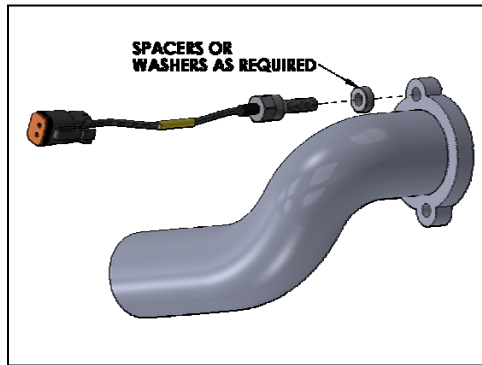

Figure 3
- Figures 3 through 8 depict generic examples of threaded elements installed.
- As required, use aluminum spacer(s) and/or metal washer(s) to prevent over extending or bottoming out of element (Figures 3 through 8).